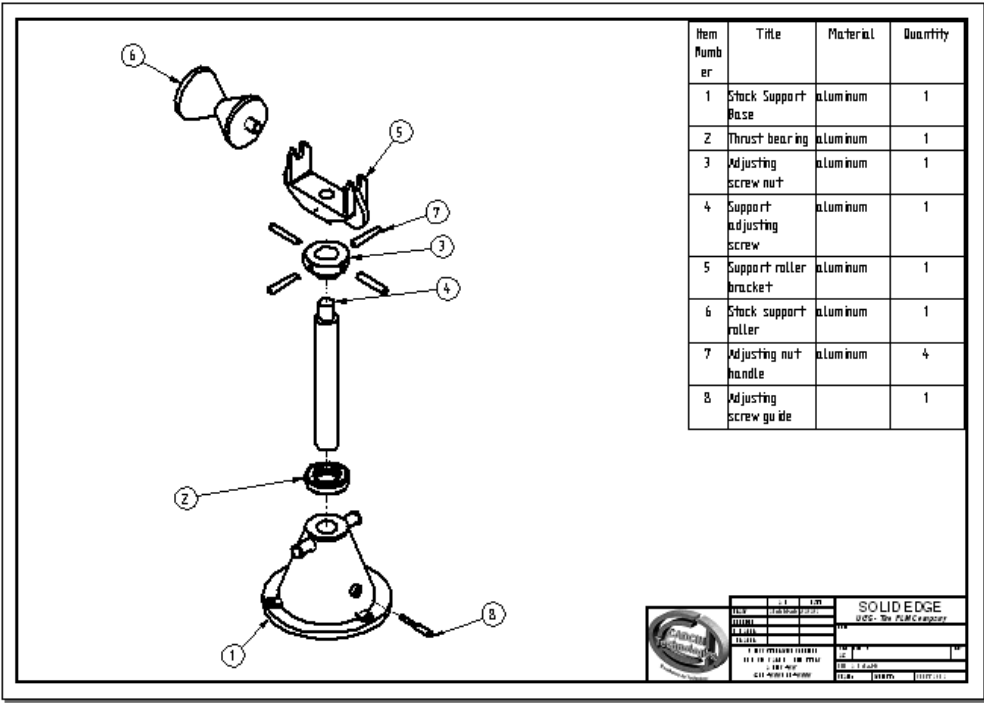

Figure 12-57 Exploded drawing view with parts list and balloons
- d. Edit balloons and the text in the column, refer to Figure 12-57.
The drawing sheet after placing the parts list and balloons is shown in Figure 12-57.